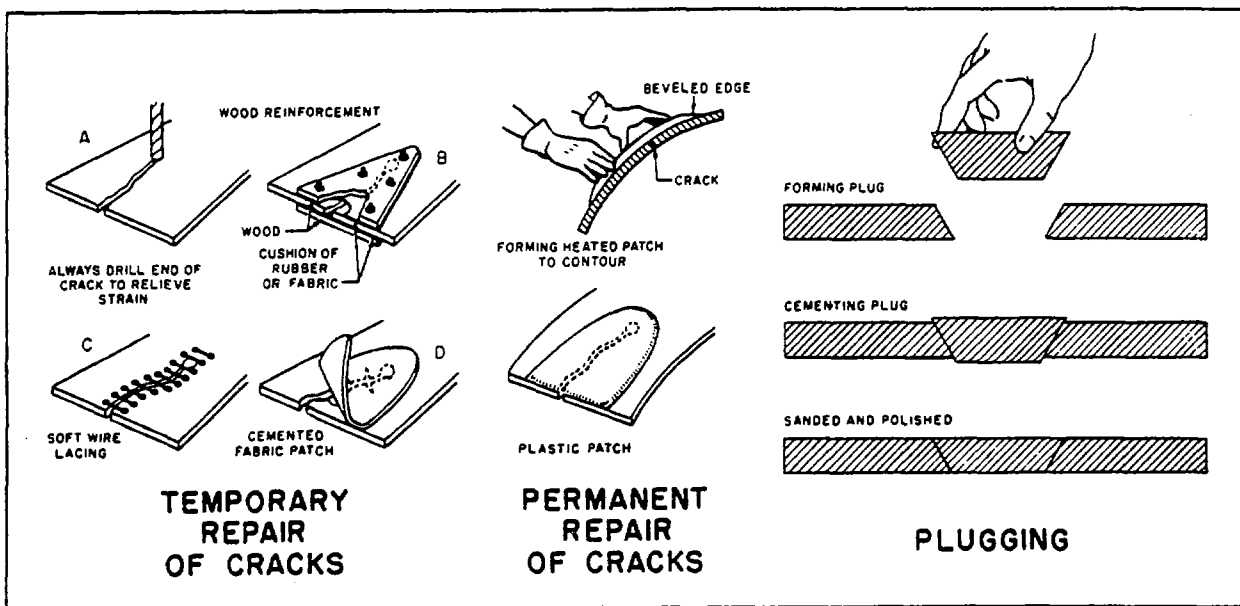

Figure 2-19. Plastic Repairs
d. Cracks in the plastic panel may be repaired as follows: Drill a hole at the end of the crack to relieve stress and thereby prevent spreading of the crack. A temporary repair may be effected by cementing a fabric patch over the crack as illustrated in figure 2-19 with either dope, Specification No. AN-D-1 or lacquer, Specification No. AN-TT-L-61. Permanent repairs can be accomplished by heating a thin sheet of Plexiglas and forming it to the area to be patched. Bevel the edges of the patch. Polish both patch and damaged area until fully transparent. Cement the patch in place with monomeric-methyl-methacrylate cement (No. 1A, Rohm & Hass Company, or equal)
and apply pressure until the cement is dry. (See figure 2-19.) When dry polish in accordance with step c above.